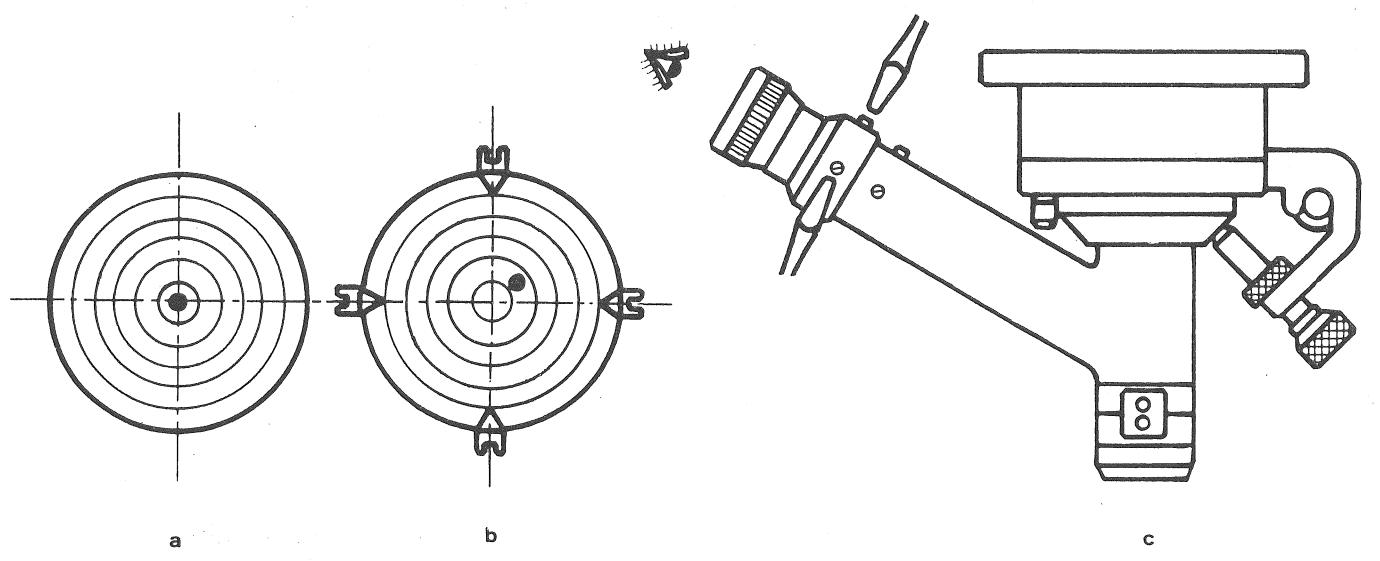

Fig. 1
10. If the imprint of the center-punch appears in the center of the reticle, the latter is correctly centered (fig. 1 a). If this is not the case, (fig. 1 b), center the reticle with respect to the imprint by means of the adjusting screws (fig. 1 c).